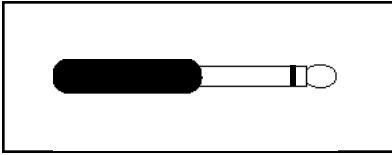
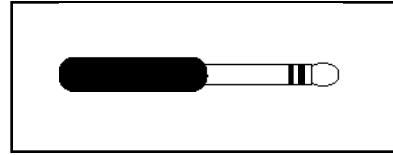

Figure 3: Mono Cable Plug
Figure 4: Stereo Cable Plug
- ### ★ *It's important to distinguish the three Stereo Cables from the six Mono Cables. The cables can be identified by looking at their 1/4" plug. Mono Cables have a two-conductor plug, with separate Tip and Sleeve sections. See Fig. 3. Stereo Cables can be identified by their three-conductor plug, with separate Tip, Ring and Sleeve (TRS) sections. See Fig. 4*